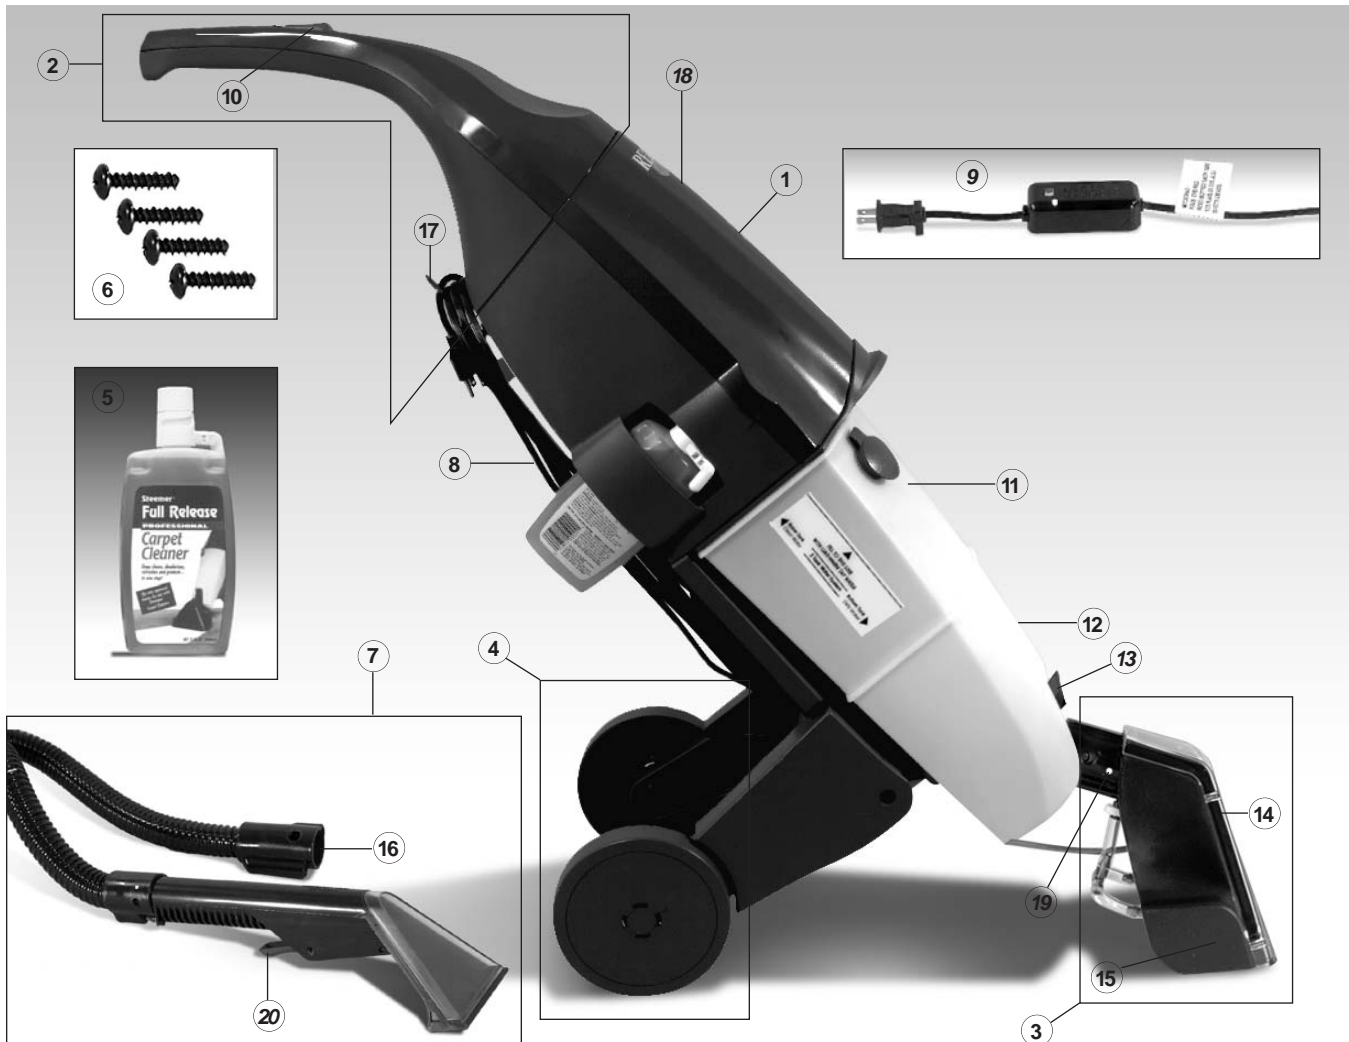

Figure 1
### ASSEMBLY STEP ONE (Figure 1):
2. Slide handle into cleaner body until interlock is secured (Figure 1-A).
3. Insert four  $\frac{5}{8}$ " screws into the four cavities in the handle base and tighten (Figure 1-B).